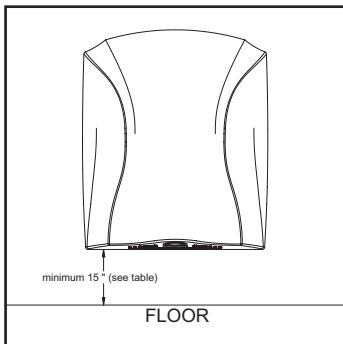

FIG. 1
2. Remove cover by executing steps from Fig. 1 to 3 on the page 3.